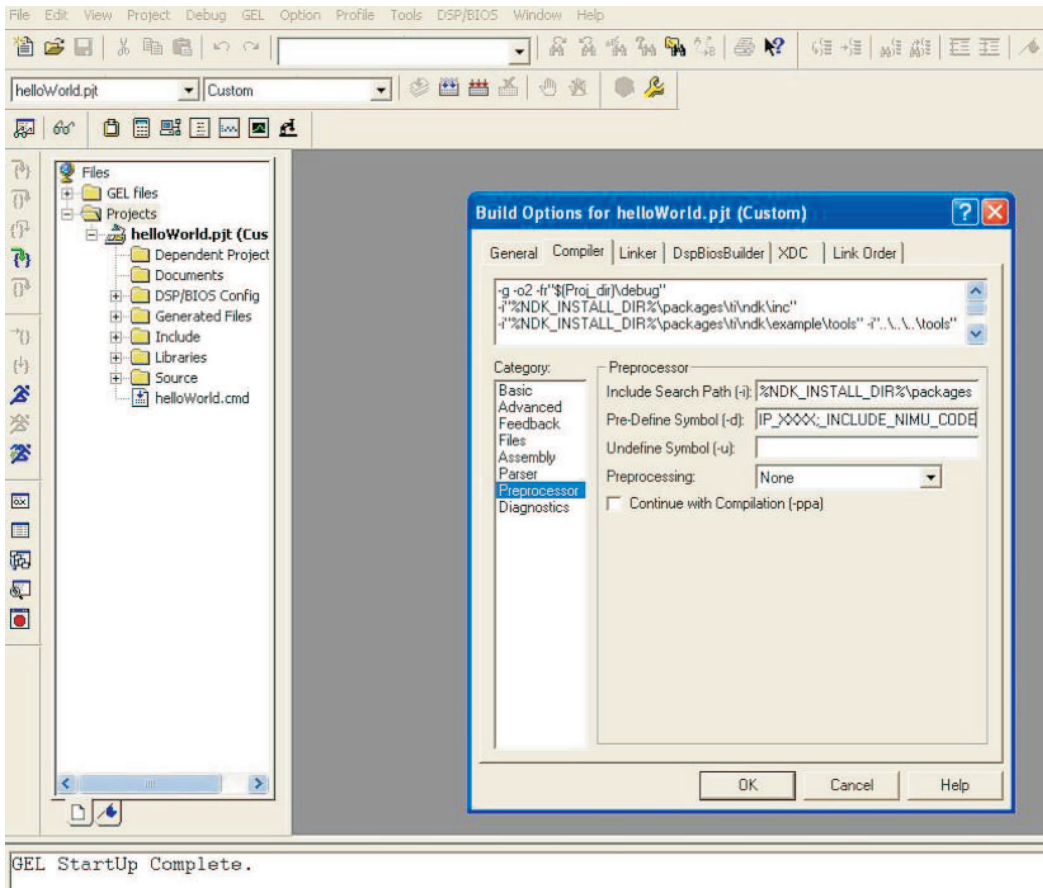

Figure 3. Enabling NIMU for Build Through Code Composer Studio
2. Click on *Preprocessor* in the *Category* box of the *Compiler* tab on the Build Options tab that appears, as shown in Figure 3:
- c. Add the following constant at the end and click the *OK* button to apply the settings in the *Pre-Define Symbol (-d)* box as shown in Figure 3: